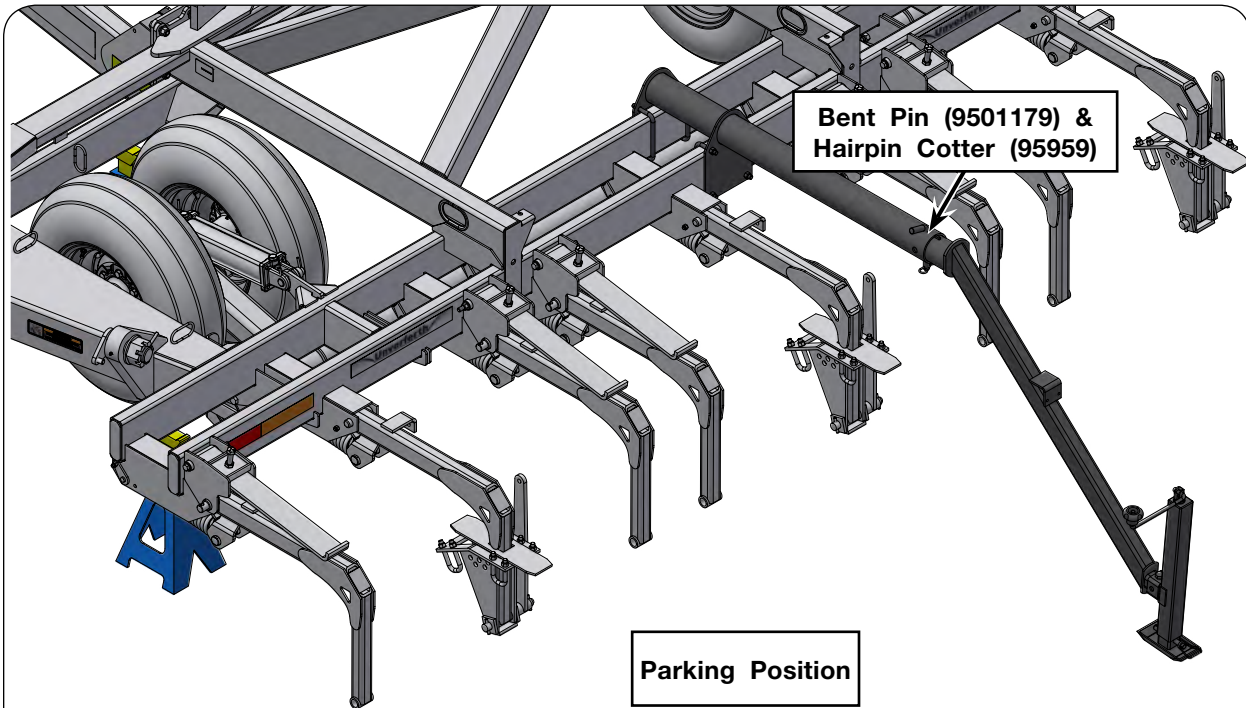

FIG. 2-8
1. Locate jack mount (75897G or 75897R) and remove U-bolts and locknuts. Install jack mount to the right-hand side of the center bent arm on rear of main frame using previously removed hardware. See FIG. 2-8.
2. Locate jack stand assembly (87755B). Remove bent pin and install jack stand to jack mount using previously removed bent pin and hairpin. See FIG. 2-8.